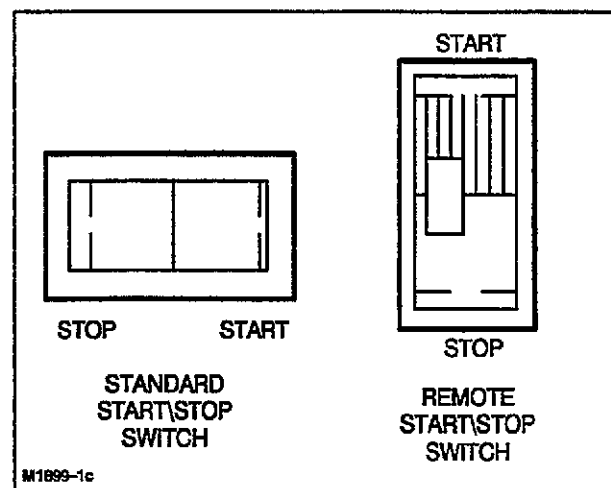

FIGURE 6. START/STOP SWITCH
2. Hold the Start/Stop switch in the Start (I) position (Figure 6). Release the switch when the genset starts.